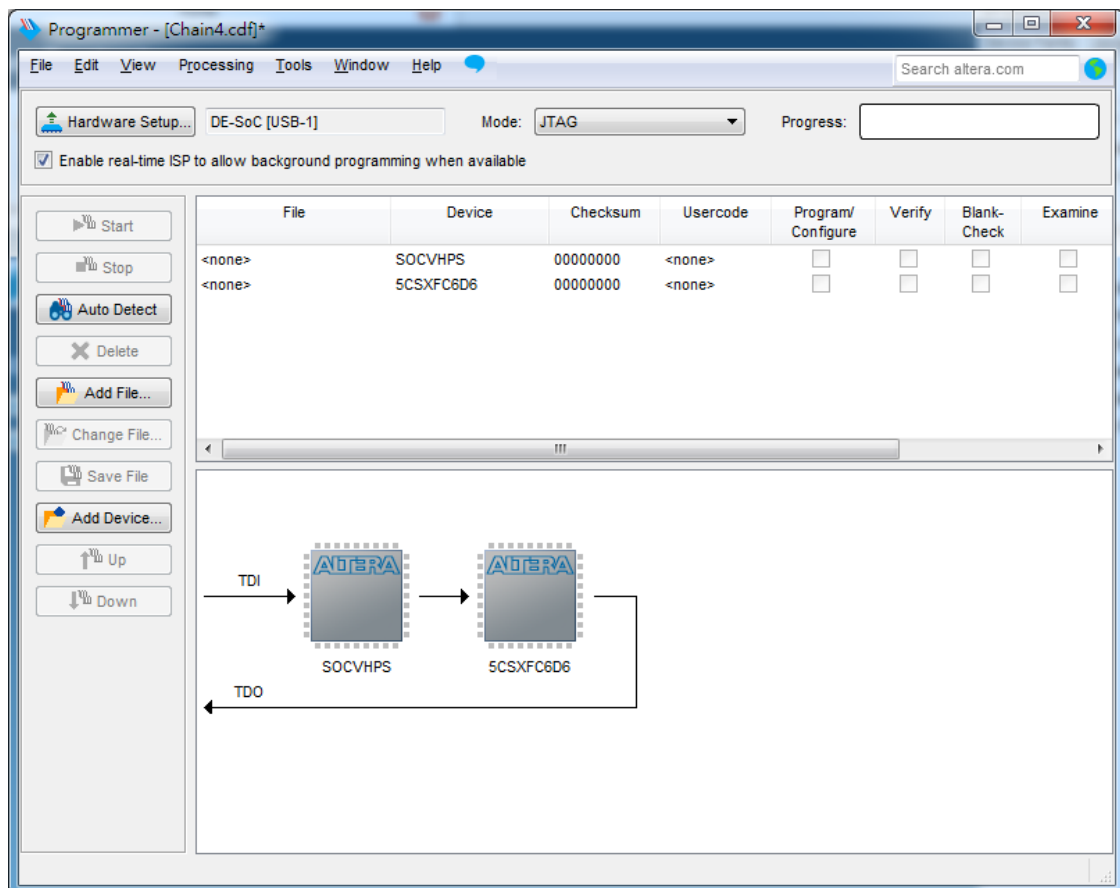

Figure 3-5 FPGA and HPS detected in Quartus programmer
- Both FPGA and HPS are detected, as shown in **Figure 3-5**.